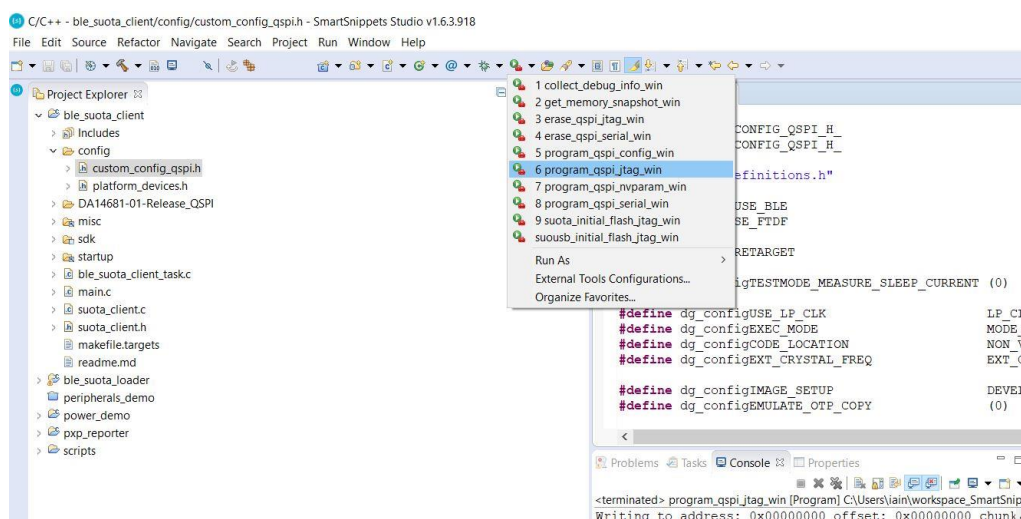

Figure 57: Flash the ble_suota_client binary to the QSPI Flash
2. Select the External Tool Configurations button, choose the appropriate script file (in Figure 57 the program_qspi_jtag_win script is used) to program the QSPI Flash memory and execute it.